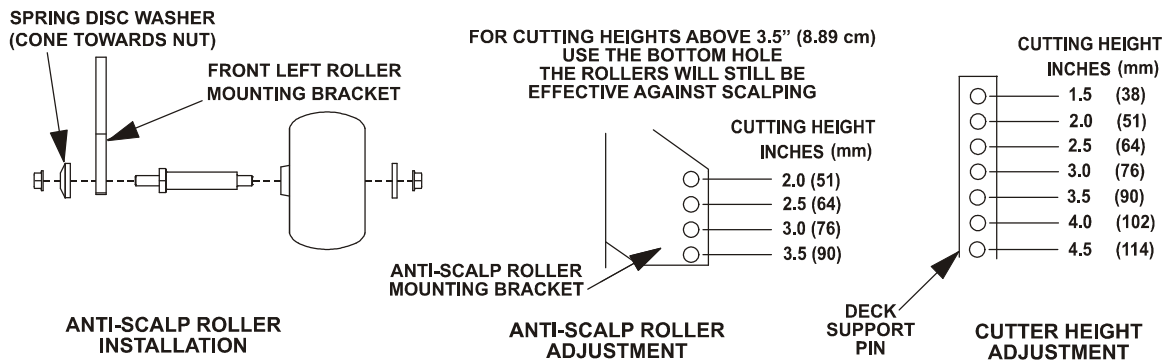

FIGURE 10
- c) Adjust anti-scalp rollers For Normal Operating Conditions. Stop engine and wait for all moving parts to stop. Place rollers in one of the positions shown in Figure 10. Rollers will maintain 3/4 in. (1.9 cm) clearance to the ground to minimize gouging and roller wear or damage. **For Maximum Deck Flotation**, place rollers one hole position lower. Rollers should maintain 1/4 in. (.64 cm) minimum clearance to ground. **Do Not** adjust rollers to support the deck. Be sure spring disc washer is installed with the cone towards the nut. Tighten nuts properly.
- d) When operating in extremely rough conditions it may be necessary to position the anti-scalp rollers one or two holes higher than described in "c" to prevent damage to the rollers and/or bolt failure (See Figure 10).